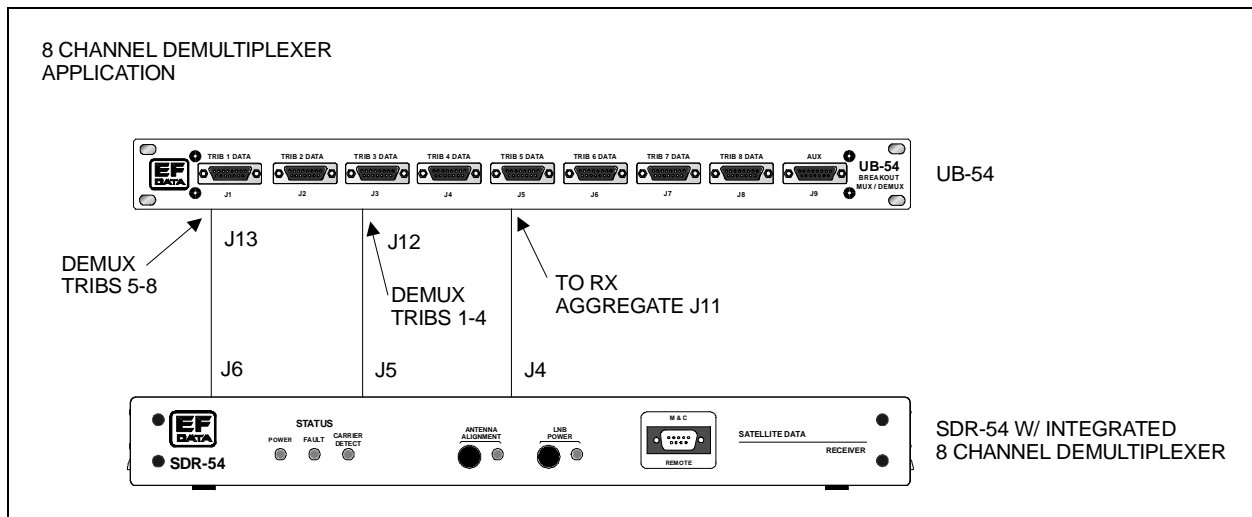

Figure 2-3. UB-54 to SDR-54 Interconnection Diagram
5. (Used with DEMUX only) Connect the breakout panel to the SDR-54 Demodulator using three standard 25-pin interface cables conforming to Tables 2-13, 2-14, and 2-15 as shown in Figure 2-3.